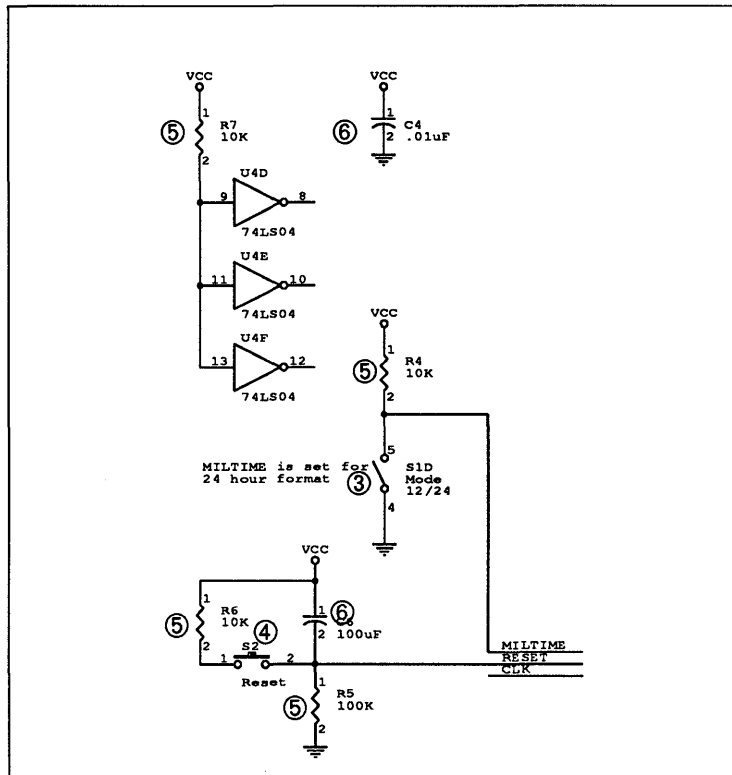

Figure 6-8. Switches, resistors, and capacitors to be placed. The callouts refer to the step numbers in this section.
There are four resistors, three inverters, two capacitors, two switches, and several power and ground symbols needed to complete the logic and display circuit schematic. Figure 6-8 shows the location of these parts.
With the part selected and the outline showing on the screen, select **Rotate** to turn the part so the orientation matches that shown in figure 6-8. Move the part to location (2.70, 6.00) and place it.
6. Inspect the wire intersections and use the **Place Junction** command to add junctions where required, as shown in figure 6-8.